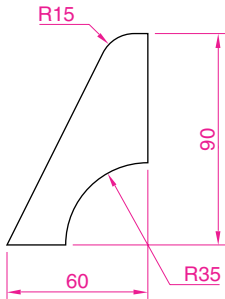

Fig. 17.12 Third example UCS – outline for 3D model
3. Construct the outline in Fig. 17.12 and extrude to a height of 120.